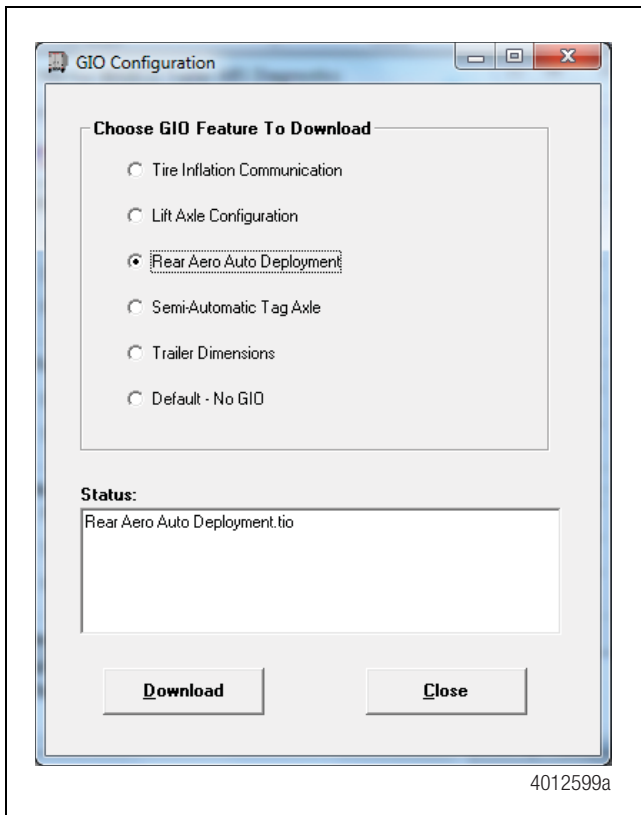

Figure 6
- Select the **Rear Aero Auto Deployment** from the **GIO Configuration** menu and select **Download** to initiate the programming of the ABS controller. Figure 6.